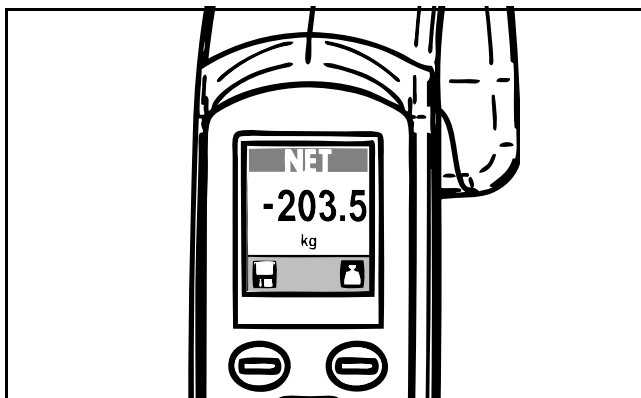

Fig. 68
- 3) Reinstall the sling back on the MAXI MOVE. Ignore the minus sign preceding the digits on the screen. Allow the weight reading to stabilise. The weight shown is the patient's actual weight (see Fig. 68).